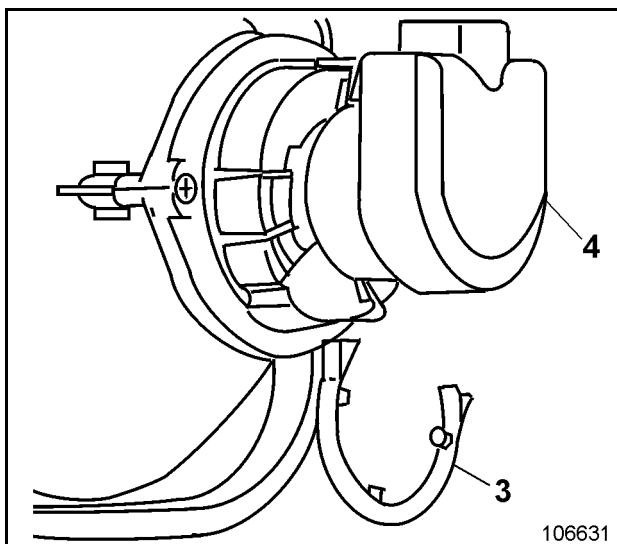

Fig. 3-72
- Remove the circlip (3, Fig. 3-72). Turn connector (4) counter-clockwise and withdraw.